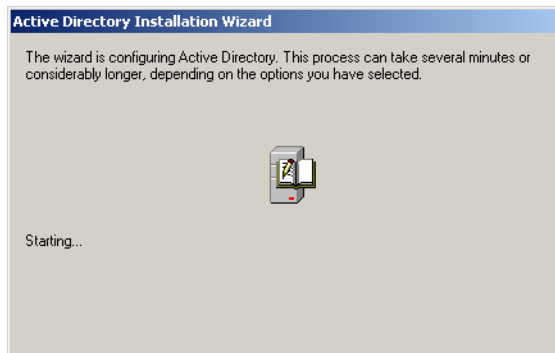

Figure D-18 Configuring primary domain controller
20. The wizard will begin configuring the Primary domain controller as shown in figure D-18.